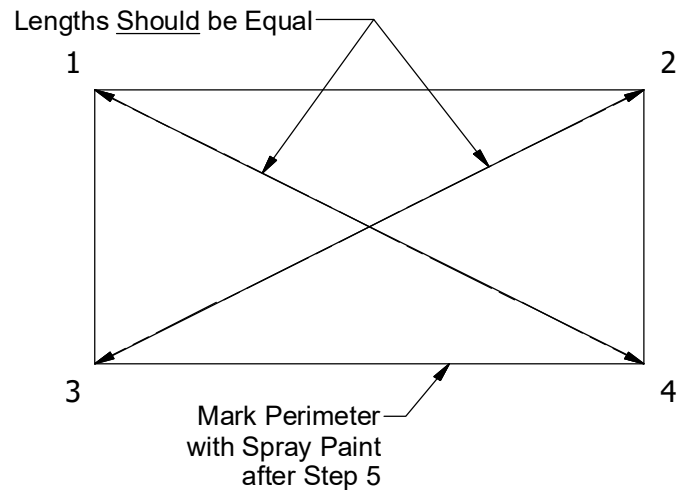

Fig 7 - Rectangle diagonal dimension check
4. To ensure your sides are parallel with square corners, measure diagonally from the corner 1 to corner 4, and from corner 2 to corner 3. Both measurements should be equal. Adjust your corner locations until measurements are correct. See Figure 7.
5. To ensure your sides are parallel with square corners, measure diagonally from the first corner to the fourth, and from second to third. Both measurements should be equal. Adjust your corner locations until measurements are correct. See Figure 7.